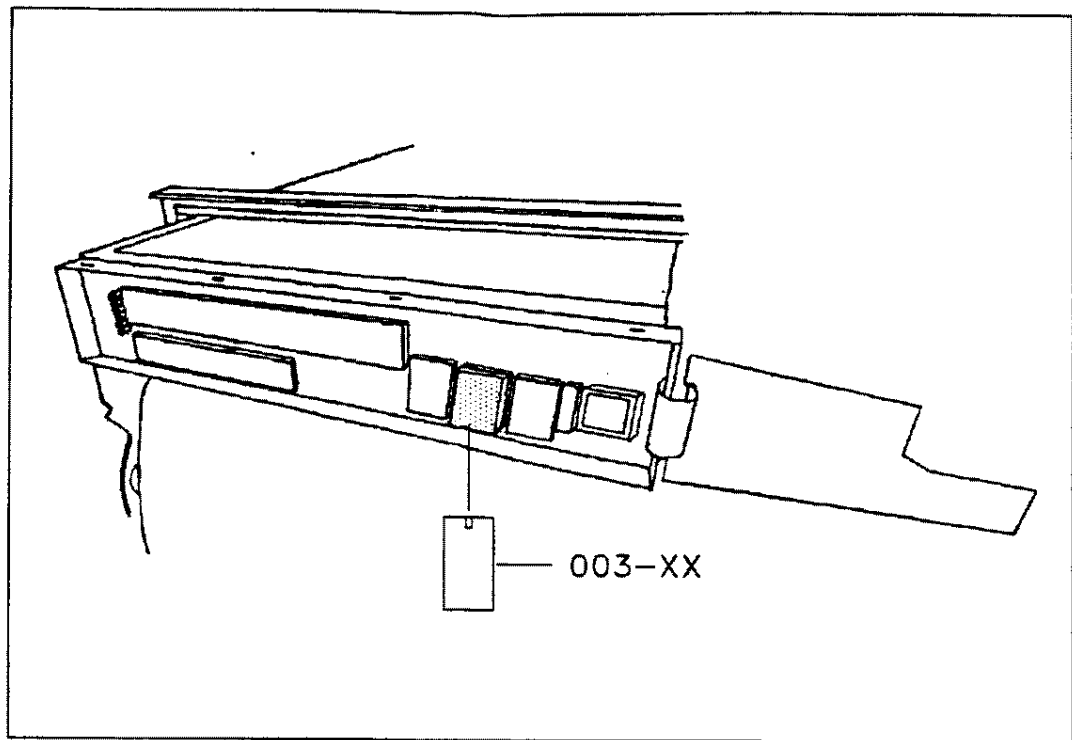

Figure 1-7 Locating the EPROM component (kit number 46182862-5BX)
- b. With the EPROM extractor, disconnect the EPROM component marked 003-"XX" and insert in place of it, the new issue component 003-"YY" (where "XX" and "YY" are the issue references between "BA" and "ZZ"). See figure 1-7